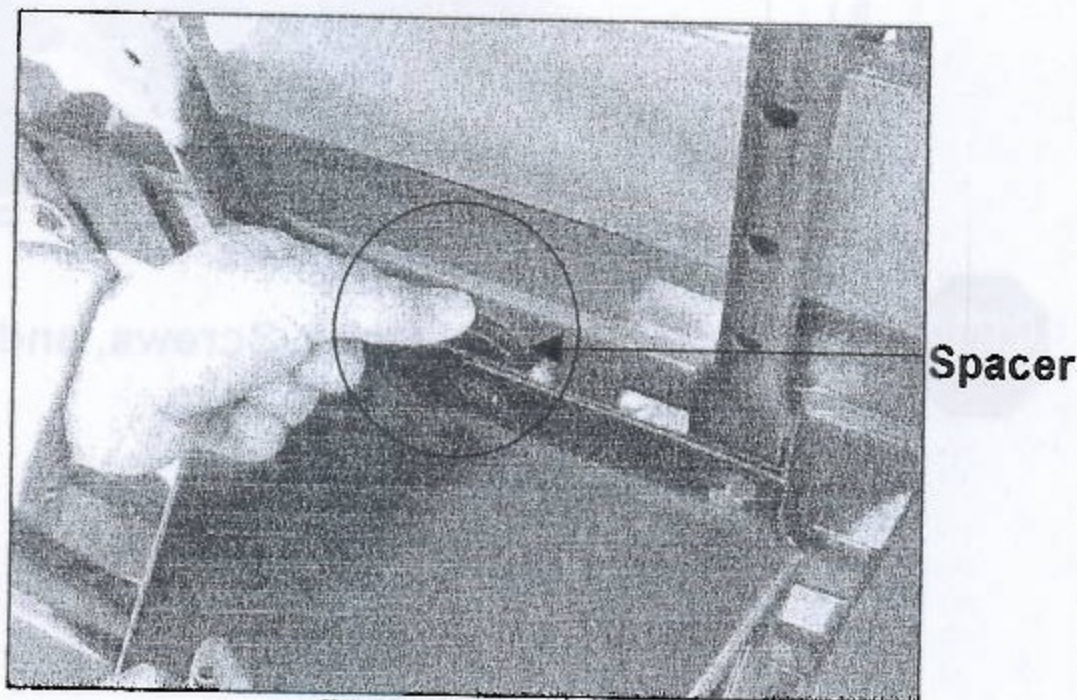

Figure 8
3. With the Vertical Brace and Spare Tire Mount in loosely in place, slide the Spacer over the top center hole and in between the vehicle and Spare Tire Mount as shown in Figure 8.
4. Loosly tighten all (5) Bolts and Washers.